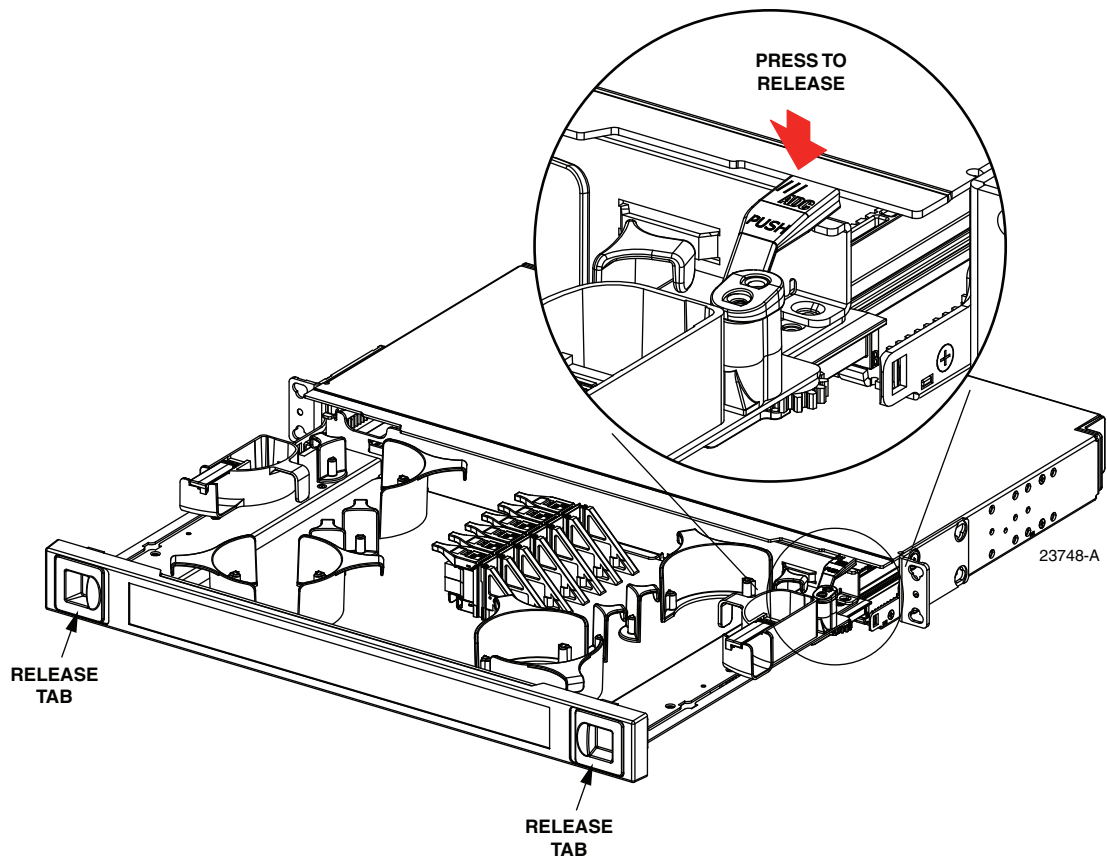

Figure 16. Tray Locked in Open Position
To open the FMT tray, slide the release tabs inward with both hands and pull the drawer straight out as far as it goes. The latch locks the tray in the open position as shown in Figure 16.
4. Release the lock open latch (“unlocked position” shown in Figure 16 on page 18).